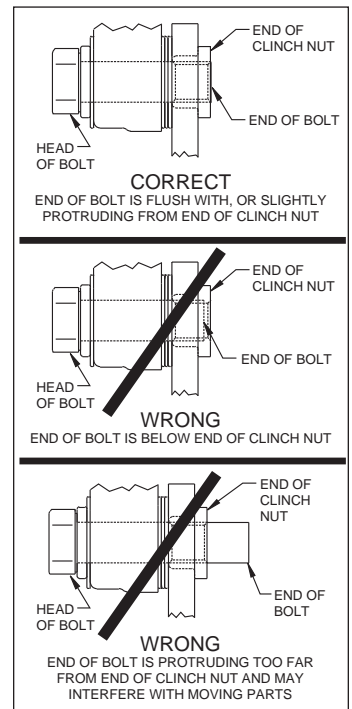

Figure 3. Clinch Nut Engagement Diagram
**Assembly Instructions** (numbers in parenthesis refer to the parts list, and Figure 1): **CAUTION:** All mounting bolts must fully engage clinch nuts. Be sure to check that all bolts are either flush or protruding through flanged side of clinch nut after shimming, Figure 3.